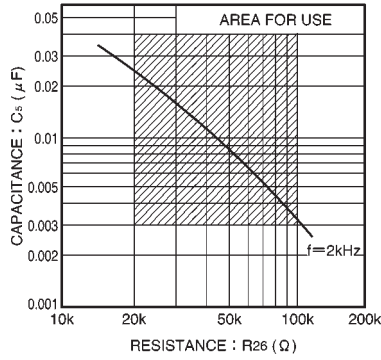

Fig. 7 Value of external components for oscillator (VCC = 5.0V)
(3) The external resistor R26 connected to the oscillator (pin 30) should be in the range of 20kΩ and 100kΩ. If it is outside this range, oscillation may stop due to the influence of temperature (see Fig. 7).